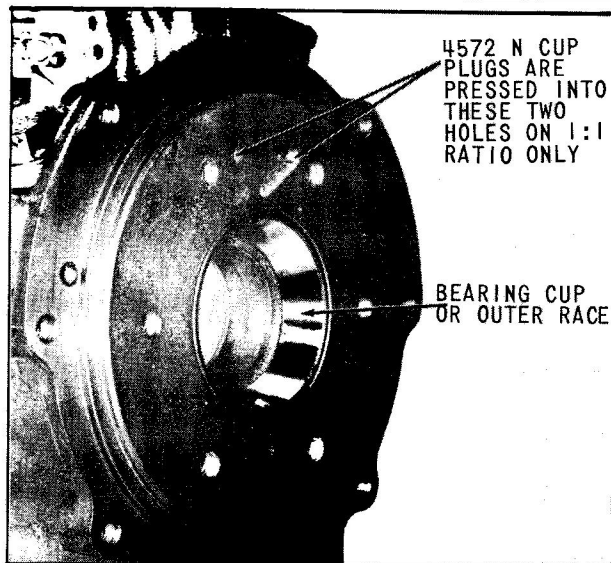

Fig. 40 Bearing Race Installed in Case
1. Press one of the two bearing cups into transmission case and the other into bearing retainer, (Fig. 40). Normally the cups will be left in position and replacement will be unnecessary. Press the oil seal into bearing retainer, if needed.